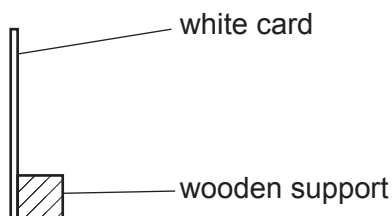

Fig. 3.2
- 2 The screen can be made from a sheet of white card approximately $15\text{ cm} \times 15\text{ cm}$. Some means of supporting the screen vertically must be provided (e.g., fixing the white card to a small block of wood – see Fig. 3.2).